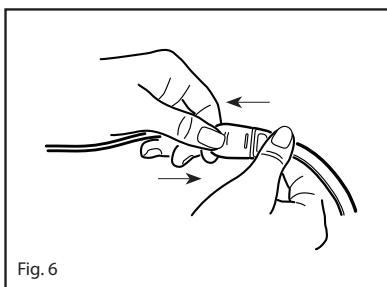

Fig. 6
2. Refer to **Fig. 6**. Insert the sensor tab into the patient cable until there is a tactile or audible click of connection. Gently tug on the connectors to ensure a positive contact.